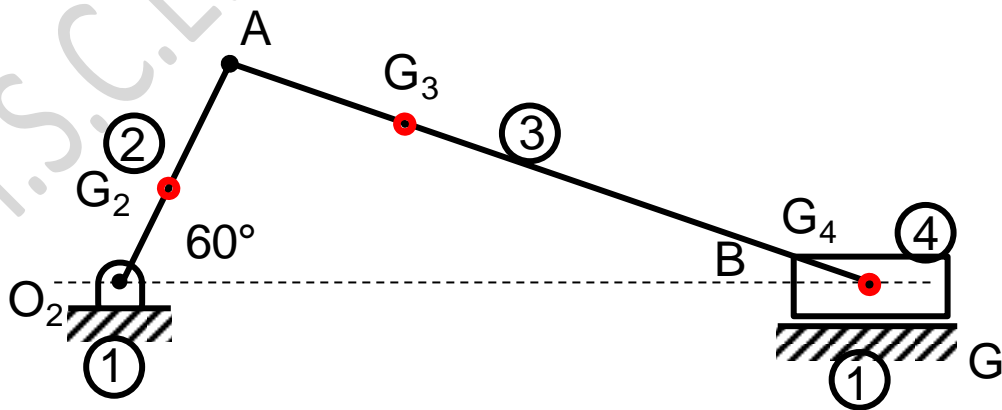

Fig.7b
- b) A horizontal reciprocating engine mechanism as shown in Fig. 7b with crank  $O_2A$  length 7.5 cm is rotating clockwise at a constant speed of 2000 rpm and connecting rod  $AB$  has a length of 28 cm. Determine the magnitude and direction of all inertia forces for a configuration that has turned  $60^\circ$  from horizontal from the line of stroke. CG of links 2 and 3 are located on the links at a distance i.e.  $O_2G_2$  and  $AG_3$  are 5 and 12 cm respectively. The mass of links 2, 3, and 4 are 2.5, 4, and 3 kg respectively and the mass moment of inertia of links 2 and 3 are 60 and 500 kg-cm2 respectively. 14